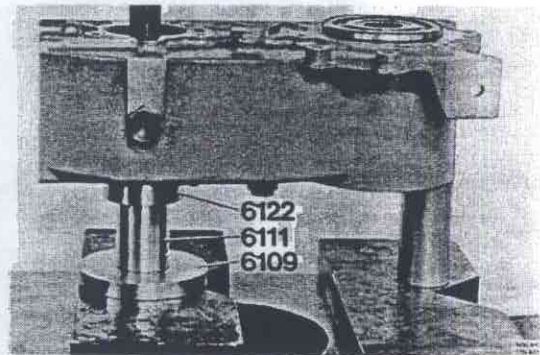

Fig. 43-192. Placing aux. gearbox
7. Remove the auxiliary gearbox. Replace the drift with 6111 and fit the ring 6122 on the drift. Turn the auxiliary gearbox and place it on the drift with ring 6122 resting against the rear bearing inner race, Fig. 43-192. Support under the auxiliary gearbox.